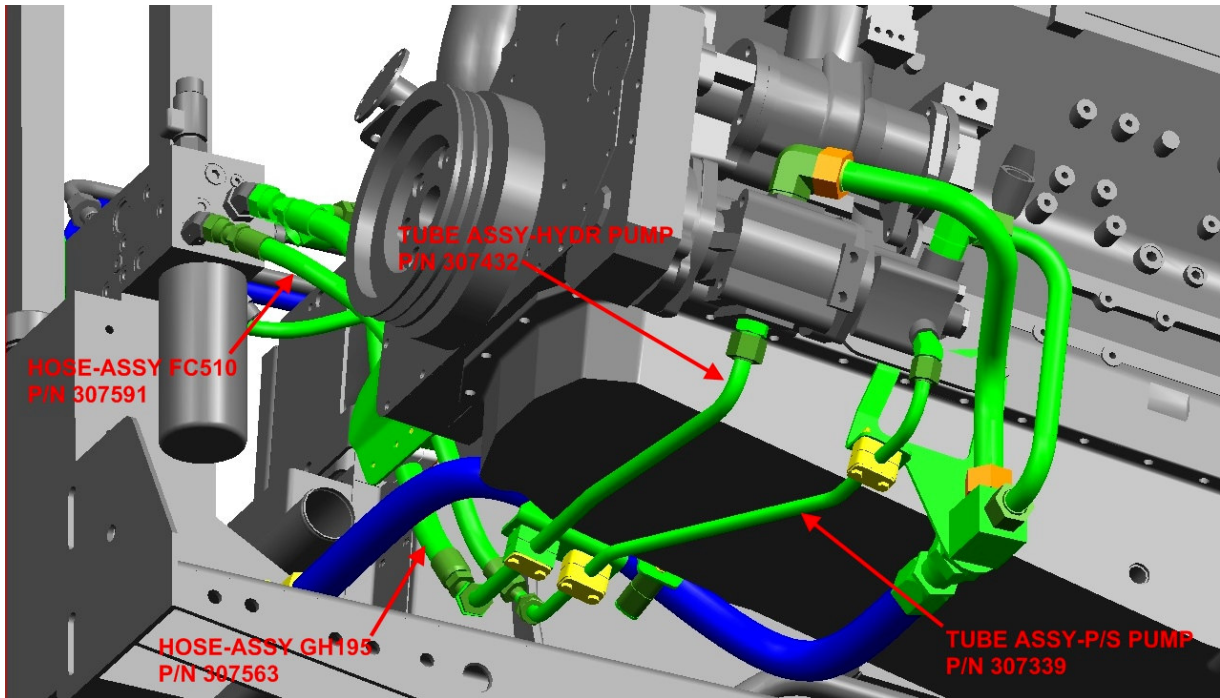

Fig. 1: Existing Hydraulic Lines (pump to reservoir)
4. Remove the following hydraulic lines from pump to reservoir; Hyrd Pump Tube P/N 307432, P/S Pump Tube P/N 307339, Hose GH195-12 FL26 P/N 307563, Hose FC510-10 FL26.5 and attaching clamps. See Fig. 1 on the following page.